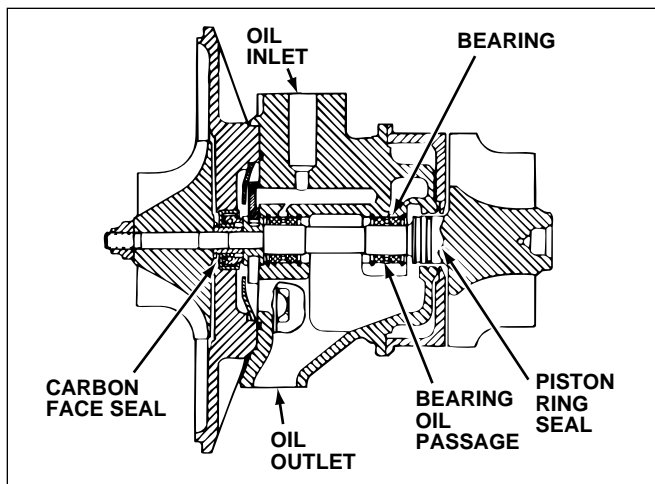

Fig. 5-12. Check turbocharger shaft oil seals for leakage.
5. Check the shaft seal areas, figure 5-12, for signs of oil leakage